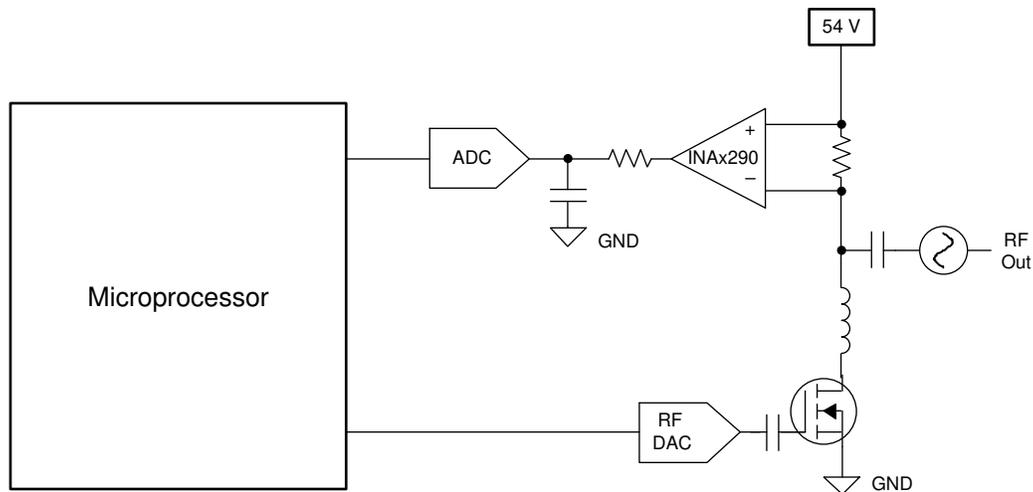

图 8-2. Current Sensing in a PA Application (Single-Channel Device)
The INAx290 is a unidirectional, current-sense amplifier capable of measuring currents through a resistive shunt with shunt common-mode voltages from 2.7 V to 120 V. 图 8-2 shows the circuit configuration for monitoring current in a high-side radio frequency (RF) power amplifier (PA) application.